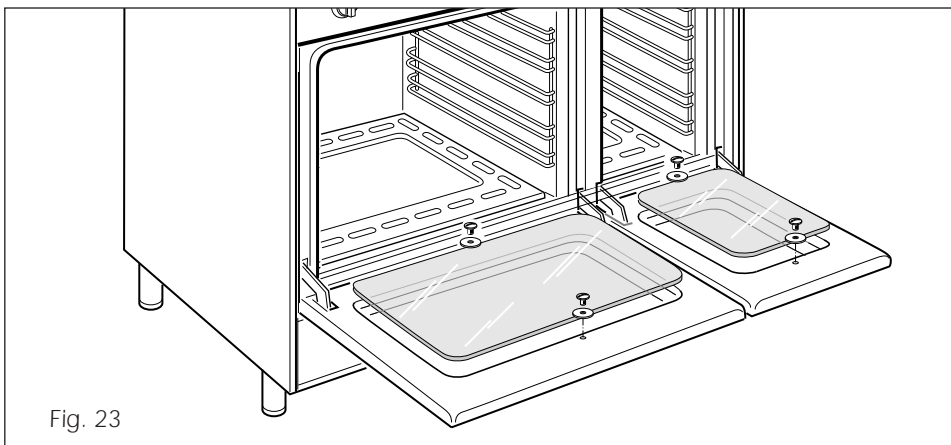

Fig. 23
- The inner glass door panel can easily be removed for cleaning by unscrewing the four screws (fig. 23).